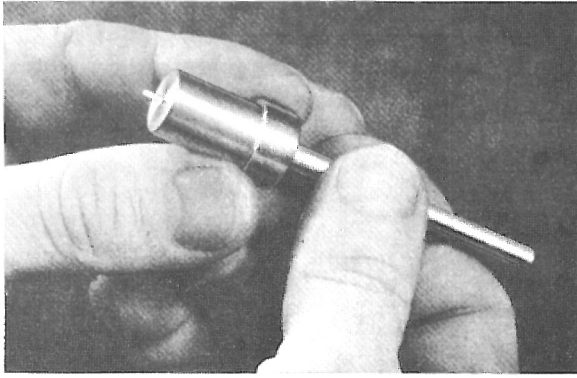

Fig. 07-44/9
**5** Use an edged, diesel-soaked hardwood stick to clean the jet needle. If the profile of the jet needle is thickly covered with carbon deposit it can be fitted (by its thrust pin (13) end) in a suitable lathe-chuck or drill-chuck; the injection pin (8), throttle pin (9) and needle seating (10) should then be cleaned with an edged hardwood stick dipped in oil (Figs. 07-44/10 and 07-44/11).